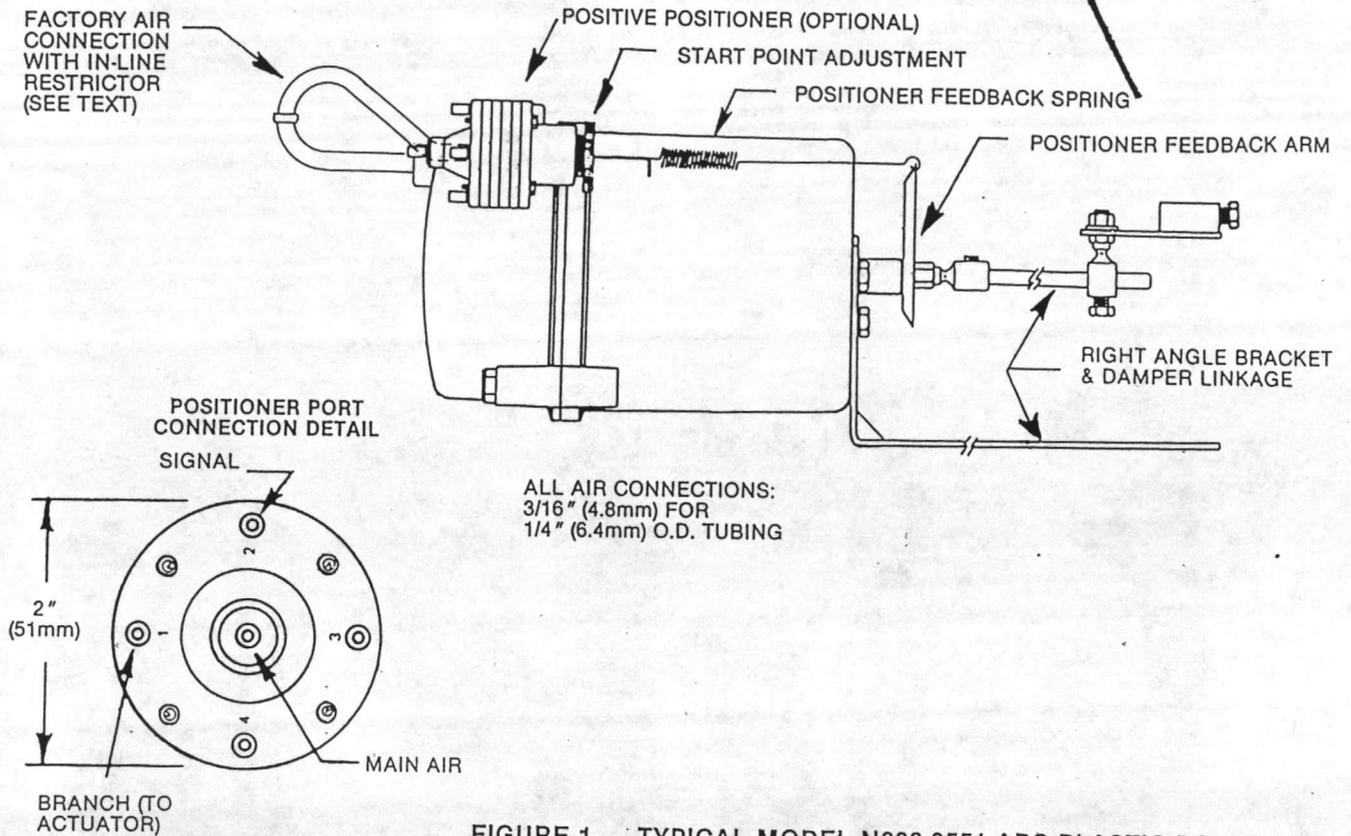

FIGURE 1 — TYPICAL MODEL N800-0551 ABS PLASTIC POSITIONER INSTALLATION (SHOWN ON M574 ACTUATOR).
**Positive Positioner (Optional):** Two models of positioners are used on these damper actuators, ABS plastic Model N800-0551 (see Figure 1) and cast zinc Model N800-0552 (see Figure 2). These positioners are similar in function and mounting arrangement; they differ only in the location of the start point adjusting screw and the location and type of air connections. Each requires a signal connection and a main air connection with a maximum pressure of 30 psig (207 kPa). The positioner output is factory-connected to the actuator signal port. (NOTE: On M573, M574 and M594 actuators, this connection is made through an in-line restrictor to damp possible oscillations due to the large air capacity of the positioner relay. It is not required on M556 actuators. The restrictor is included with positioners ordered separately.) Adjustments are as follows:
b. If the factory-calibrated operating range is not satisfactory or if an optional 3 psi (21 kPa) or 10 psi (69 kPa) span feedback spring is substituted, the stroke *start point* of the positioner may be adjusted by setting the signal pressure to the desired value and turning the "start point adjustment" (see Figures 1 and 2) by hand until the actuator shaft begins to move from its "normal" (zero pressure) position. The start point setting is adjustable from 3 to 12 psig (21 to 83 kPa).